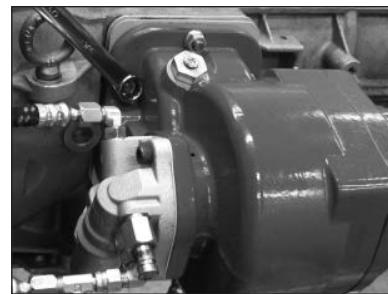

Figure 56
7. Install the PTO over the studs and secure the PTO with the self-locking nuts provided with the PTO (**Fig. 56**).